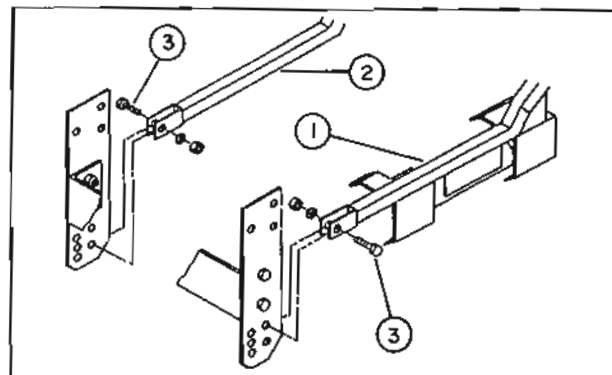

FIGURE 5
f) Attach fork end of subframe bars to lower set of holes on front support brackets [right hand subframe bar (fig.5, item 2) to lower hole position and left hand subframe bar (fig.5, item 1) to upper hole position on front support bracket] using two 5/8" x 1 3/4" bolts (fig.5, item 3), lockwashers and nuts.